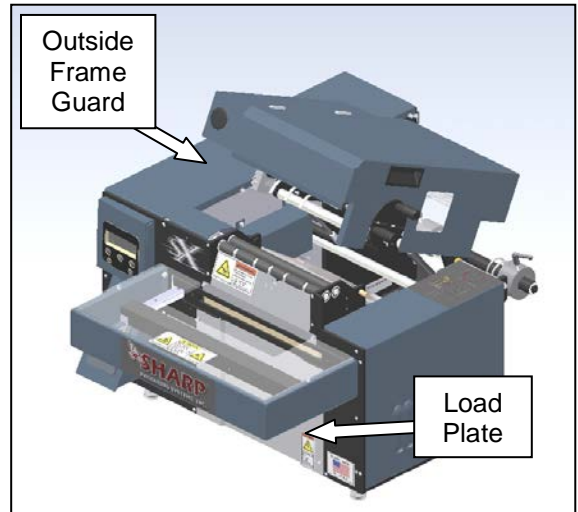

Figure 3-151. Guard Identification
1. Remove the outside frame guard and the front load plate (Figure 3-151).